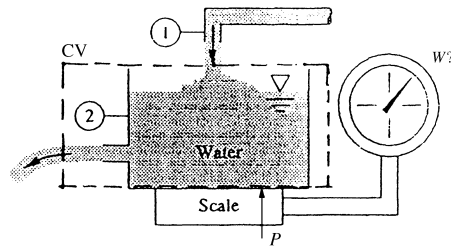

Fig. P3.66
3.66 The tank in Fig. P3.66 weighs 500 N empty and contains 600 L of water at 20°C. Pipes 1 and 2 have $D = 6$ cm and $Q = 300 \text{ m}^3/\text{hr}$. What should the scale reading W be, in newtons?